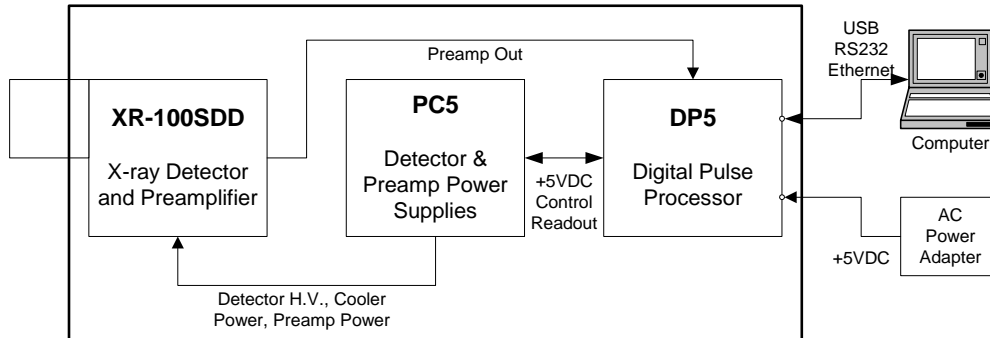

Figure 8-1. Block diagram of the X-123SDD.
Figure 8-1 is a block diagram of the X-123SDD. The key elements include (1) the detector, (2) the preamplifier, (3) the digital pulse processor, (4) the power supplies, (5) the packaging or enclosure for the system, and (6) the computer running software for instrument control, data acquisition, and data analysis. All X-ray spectroscopy systems contain these basic elements.
Amptek, Inc. provides a family of spectroscopy products, all built around the basic elements illustrated in Figure 8-1. In brief, all include a detector, a preamp, a DPP, and power supplies. There are several different detectors, optimized for different applications. This includes Si-PIN, SDD, and CdTe diodes, along with scintillators/PMT units. The components are also available in several packaging options: integrated in a single package (as in the X-123 or GammaRad), as a separated preamp and signal processor/power supply (XR100 and PX4), or as printed circuit boards which users integrate into their own products. The signal processor can also be used with other detectors, e.g. proportional counters. Amptek now provides two generations of the core digital processor, the DP4 and DP5, packaged into the PX4 and PX5 (PX5 will be available soon).